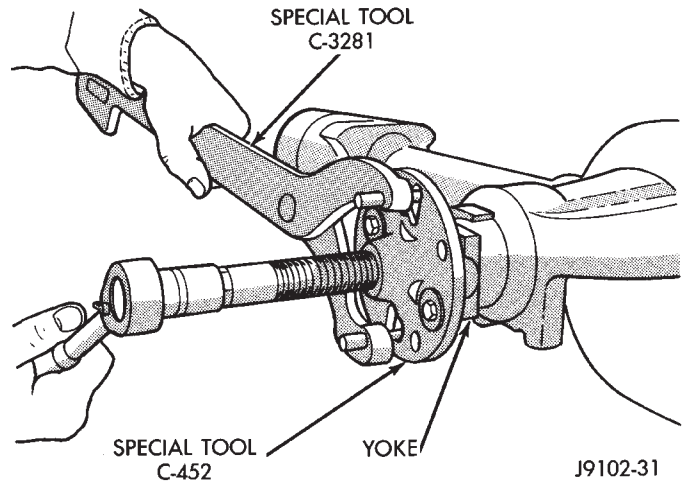

Fig. 7 Pinion Yoke Removal
- (1) Raise and support the vehicle.
- (2) Remove wheel and tire assemblies.
- (3) Remove brake calipers and rotors
- (4) Mark the propeller shaft and pinion yoke for installation reference.
- (5) Remove the propeller shaft from the yoke.
- (6) Rotate the pinion gear three or four times.
- (7) Measure the amount of torque necessary to rotate the pinion gear with a (in. lbs.) dial-type torque wrench. Record the torque reading for installation reference.
- (8) Remove the pinion yoke nut and washer. Use Remover C-452 and Wrench C-3281 to remove the pinion yoke (Fig. 7).
- (9) Use suitable pry tool or slide hammer mounted screw to remove the pinion shaft seal.